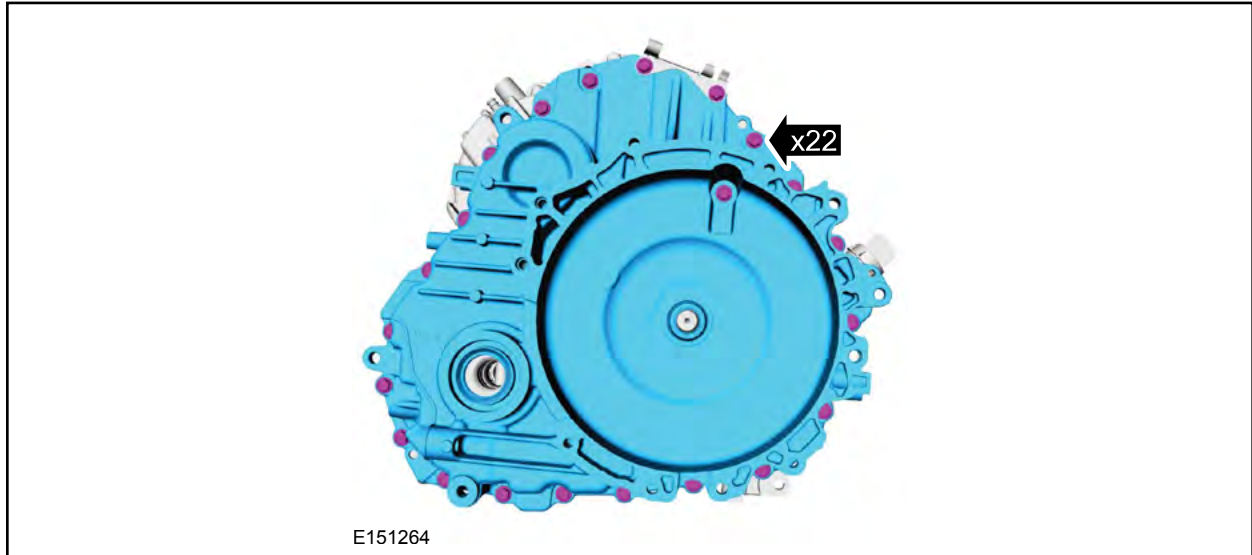

FIGURE 1
1. Remove the bolts and the damper housing. See Figure 1.